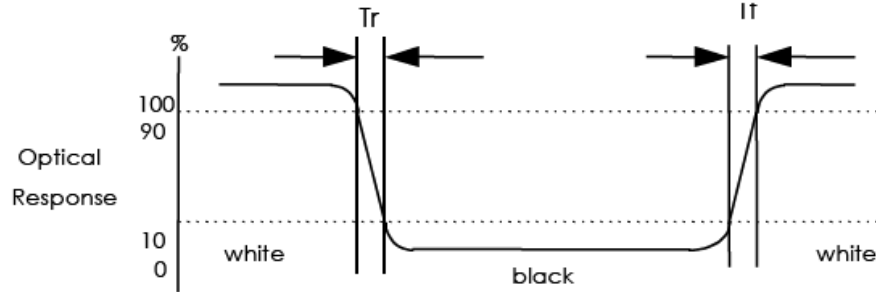

FIG. 2 Measuring method for Contrast ratio, surface luminance, Luminance uniformity , CIE (x, y) chromaticity
| Contrast ratio | Cr | | 250 | 350 | - | --- | FIG 2. | 1 |
| Luminance uniformity | δ WHITE | | 80 | 85 | - | % | FIG 2. | 3 |
| Surface Luminance | Lv | | - | 500 | - | cd/m ² | FIG 2. | 2 |
| CIE (x, y) chromaticity | Red | x | - | - | - | FIG 2. | 5 | |
Note 1. Contrast Ratio(CR) is defined mathematically as For more information see FIG 2.
Note 2. Surface luminance is the LCD surface from the surface with all pixels displaying white. For more information see FIG 2.
Note 3. The uniformity in surface luminance , δ WHITE is determined by measuring luminance at each test position 1 through 5, and then dividing the maximum luminance of 5 points luminance by minimum luminance of 5 points luminance. For more information see FIG 2.